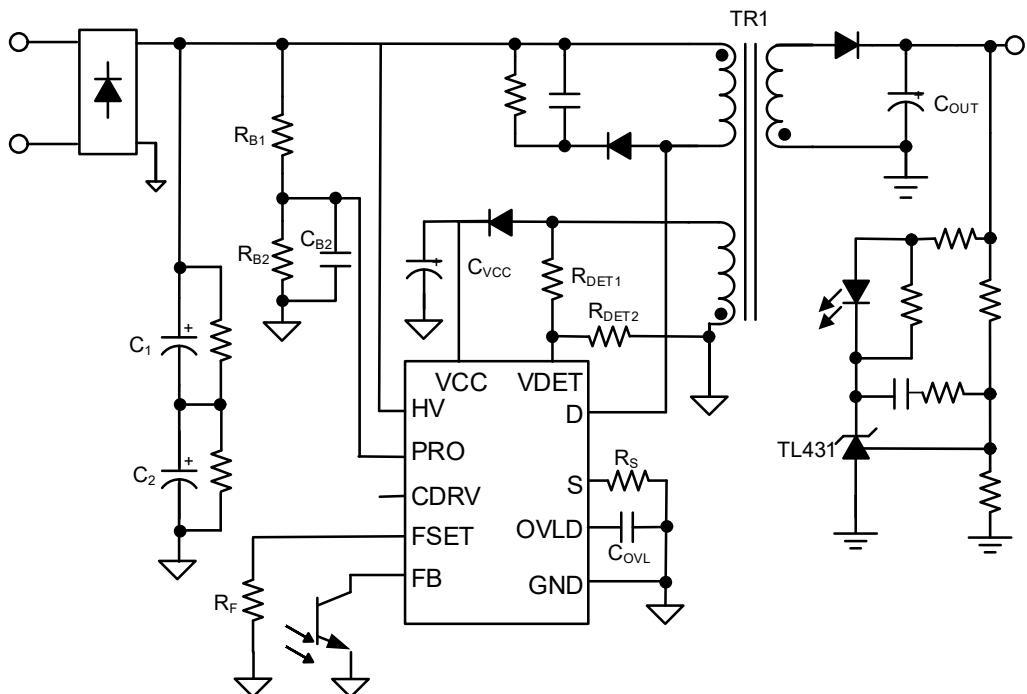

Figure 29. RAA223181 Flyback without the capacitor MOSFET
**Single capacitor operation for input overvoltage:** The IC features a capacitor saving feature by employing an optional external MOSFET driven by the CDRV pin. The FET is connected in series with a 400V input buffer capacitor, as shown in Figure 29. The FET is on in normal operation. When the input has a voltage over the maximum operating voltage, sensed by the PRO pin through a resistor divider, the FET is turned off and disconnected the buffer capacitor from the BUS, protecting the capacitor from by overvoltage damage. When the bus voltage drops low enough, the IC resumes switching. The FET is initially off at the startup, controlled by a low